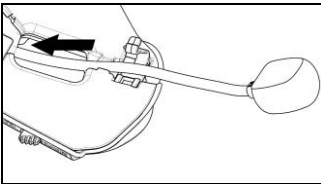

Fig. 14
- Position the microphone at the desired length, sliding the excess portion inside the cheek pad lining (Fig. 14).